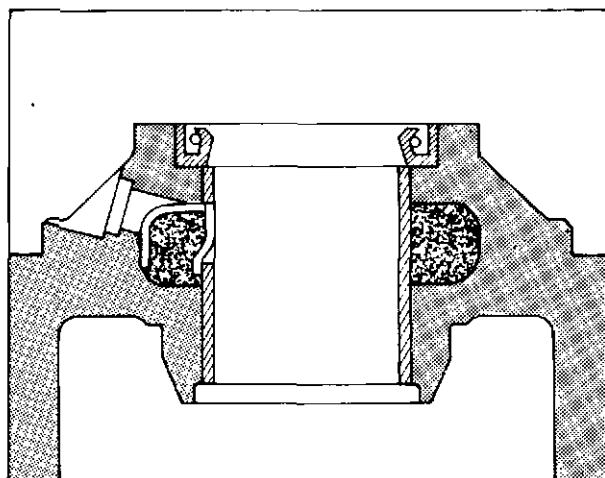

Fig. 11 Drive end oil seal
7. Remove the blanking from the hole in the bush and press in a new oil seal with the lips facing outwards as shown in fig. 11.